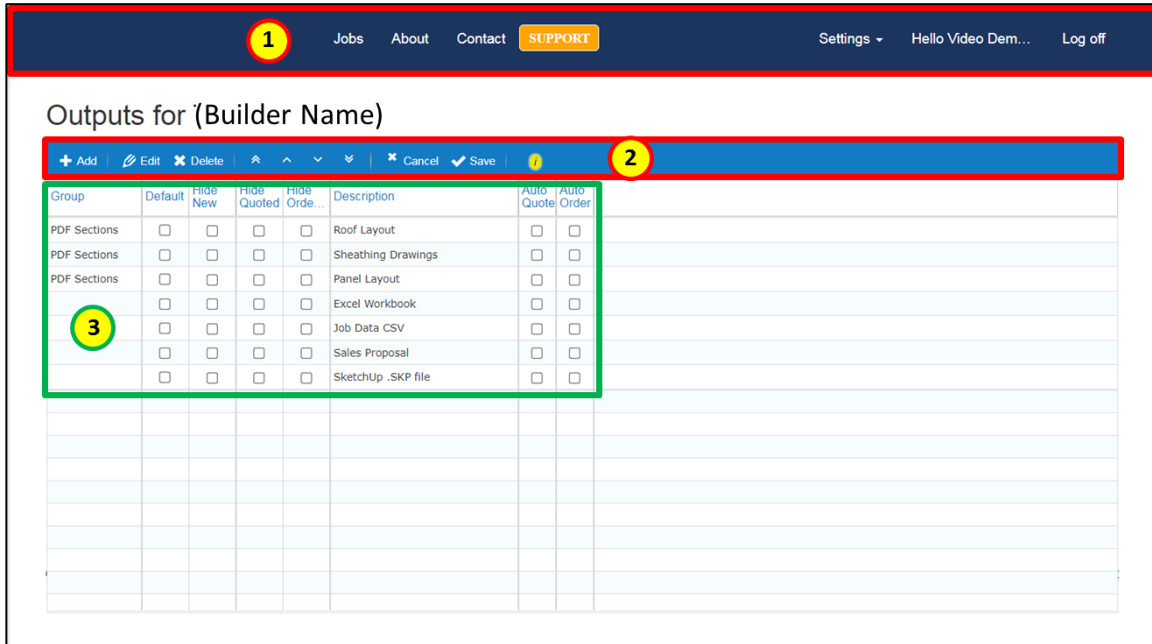
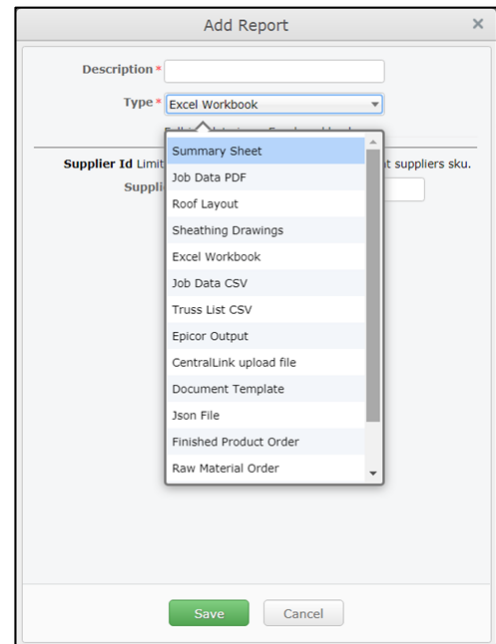

Figure 1: Parts of the SmartBuild *Outputs* window used by System Administrators.
Figure 2: The *Add Report* [output] dialog box.
Setting up and customizing the SmartBuild outputs for your organization is accomplished using the *Outputs* page for System Administrators. To access this page, go to the Menu Bar and click on *Settings* → *Outputs*. This will open an *Outputs* window like the one pictured in Figure 1 below. Please take a moment to review the various parts of the *Outputs* window, as described in this section.
This section of the Outputs window displays all of the outputs that are currently available to your users. As you can see in *Figure 1* (previous page), the Outputs List contains eight (8) columns of information that are used to describe and configure each Output. Here is a brief description of the purpose and function of each of these columns:
NOTE – The Outputs List in *Figure 1* (previous page) shows the four outputs that SmartBuild includes in your list by default. These four outputs can be deleted or modified by the Systems Administrator in any way he/she deems appropriate.
To create a new output, on the Outputs page (Figure 1, page 1) go to the Outputs Toolbar and click on the Add button. This will open the *Add Report* dialog box pictured at right in Figure 2. Using the *Type* drop-down list in this dialog box, select the type of output you wish to create. The contents displayed in lower portion of this dialog box will then change, depending on the type of output you have selected. We will outline the required procedures for each different type of output in the pages that follow.